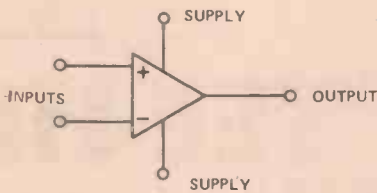

Fig. 6. Symbol for an amplifier IC.
Good ol' fashioned transistor circuits use a symbol for each component and most of these symbols have been around for a long time. There aren't many standard symbols for linear ICs, mainly because so many linear ICs would need special symbols, and it takes longer these days to get a symbol accepted than it does to design and produce the IC! The symbol which is most often used is the triangle (Fig. 6) with input(S) at the flat end and output from the sharp end. This symbol is used to represent an amplifier, and since most linear ICs contain amplifiers or *are* amplifiers, it's the most useful thing to have a symbol for. Other linear ICs simply use a square or rectangular block symbol, with, input, output and power supply lines going in and out of the block. What goes on inside the IC then remains a mystery until we take a long hard look at the data sheet — and until you've finished this series it may remain a mystery even after you've seen the data sheet.